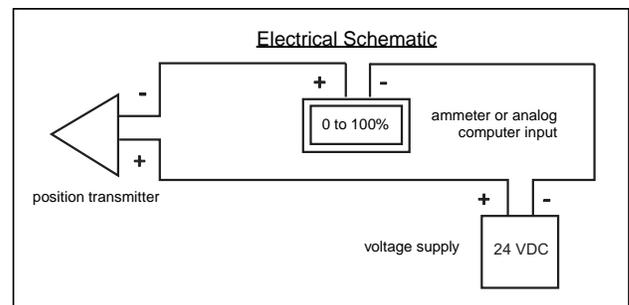

Fig. 15 Electrical schematic for position transmitter calibration
4. Disconnect the ohm meter and connect DC power to the + and - terminals, Fig. 15.